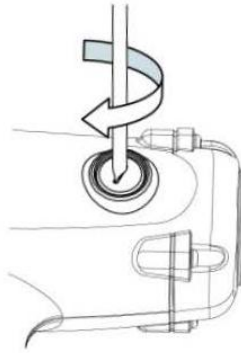

Fig.4
- Lock the carbon brush cover back clockwise by using slitted bit. (Fig. 4)